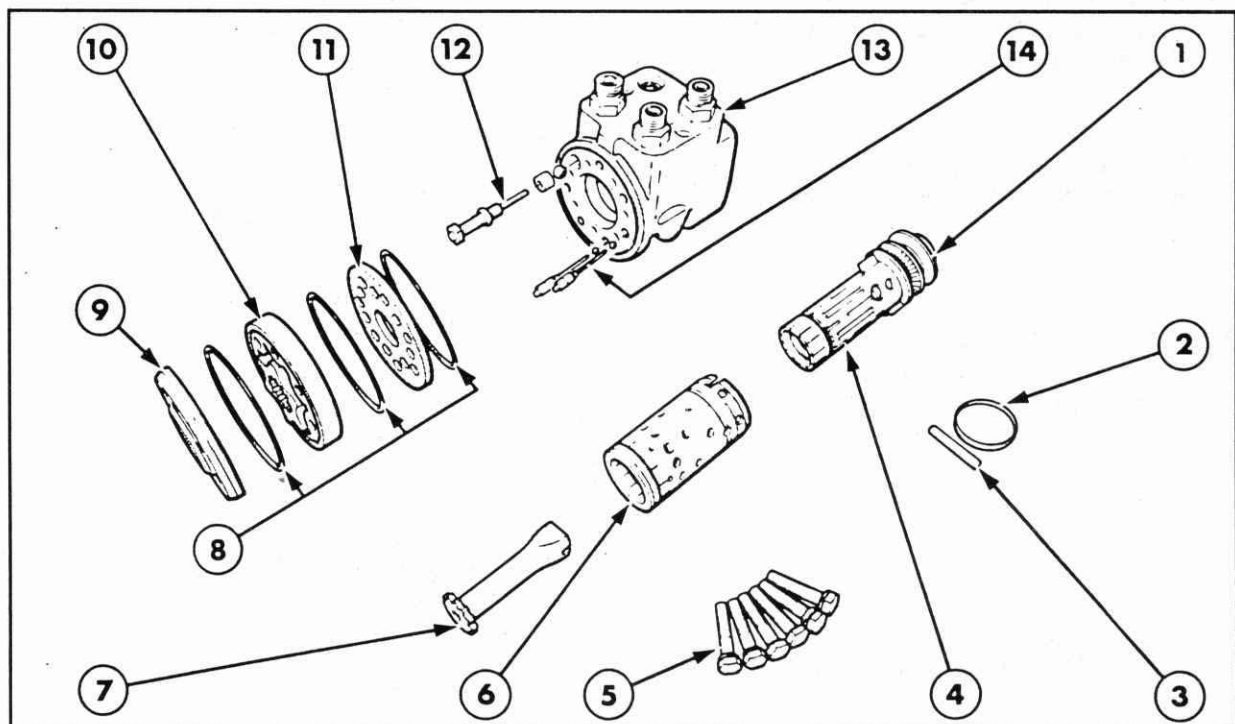

Figure 7-35
6. Discard all O ring seals and replace with new seals on reassembly. An exploded view of the steering motor is shown in Figure 7-35.